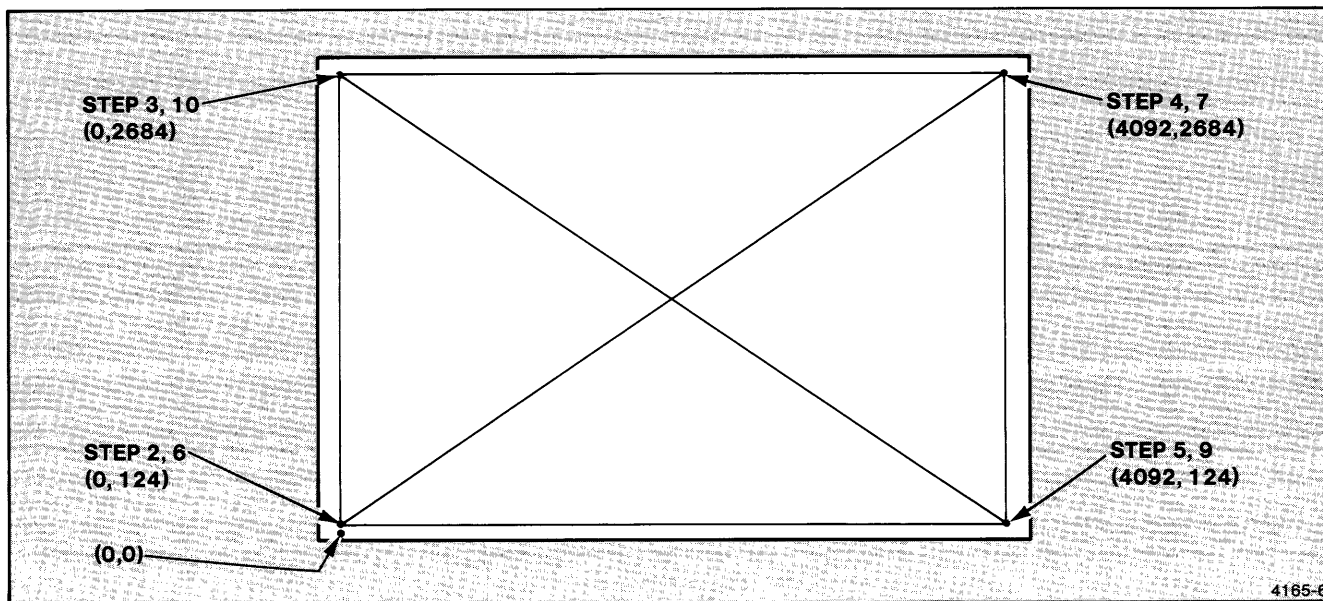

Figure 2-5. Example Plot Using RS-232-C.
This ASCII string causes the plotter to move the pen carriage to the lower-left corner. The first pen movement to the coordinate pair entered after the GS character is always a Move (vector with the pen up). Figure 2-5 shows the pattern you will draw in this procedure.
- Repeat Step 3 to draw a diagonal line to the upper-left corner of the platen. Figure 2-5 shows the pattern drawn in this exercise.